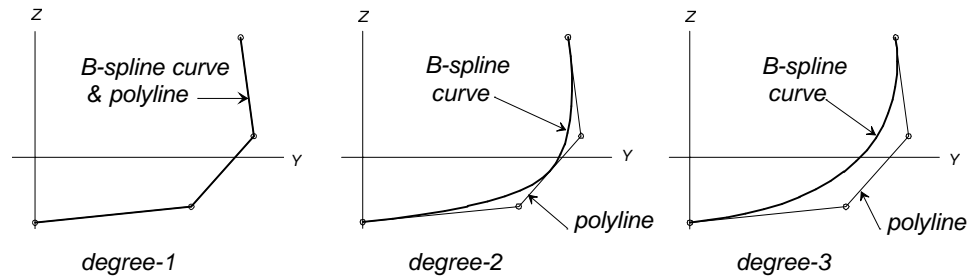

Fig. 1 Three degrees of B-spline Curve
- degree-1 the curve is polyline itself (Fig. 1, left); this is one way to make a polyline entity in SurfaceWorks
- degree-2 the curve is made of one or more parabolic arcs that join with continuous slope (except at doubled control points) (Fig. 1, middle)
- degree-3 the curve is made of one or more parametric cubic segments that join smoothly with continuous slope and curvature (except at multiple control points) (Fig. 1, Right)